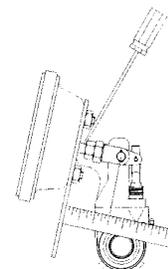

Figure 4 - Free Stroke
4. Free stroke is the amount of movement of the brake adjuster arm required to move the brake shoes against the drum. With brakes released, measure from the face of the chamber to the center of the clevis pin. Use a ruler to measure the movement of the brake adjuster until the brake shoes contact the drum (Figure 4). The difference between the released and applied measurements is the free stroke. The free stroke should be 3/8” to 5/8”.